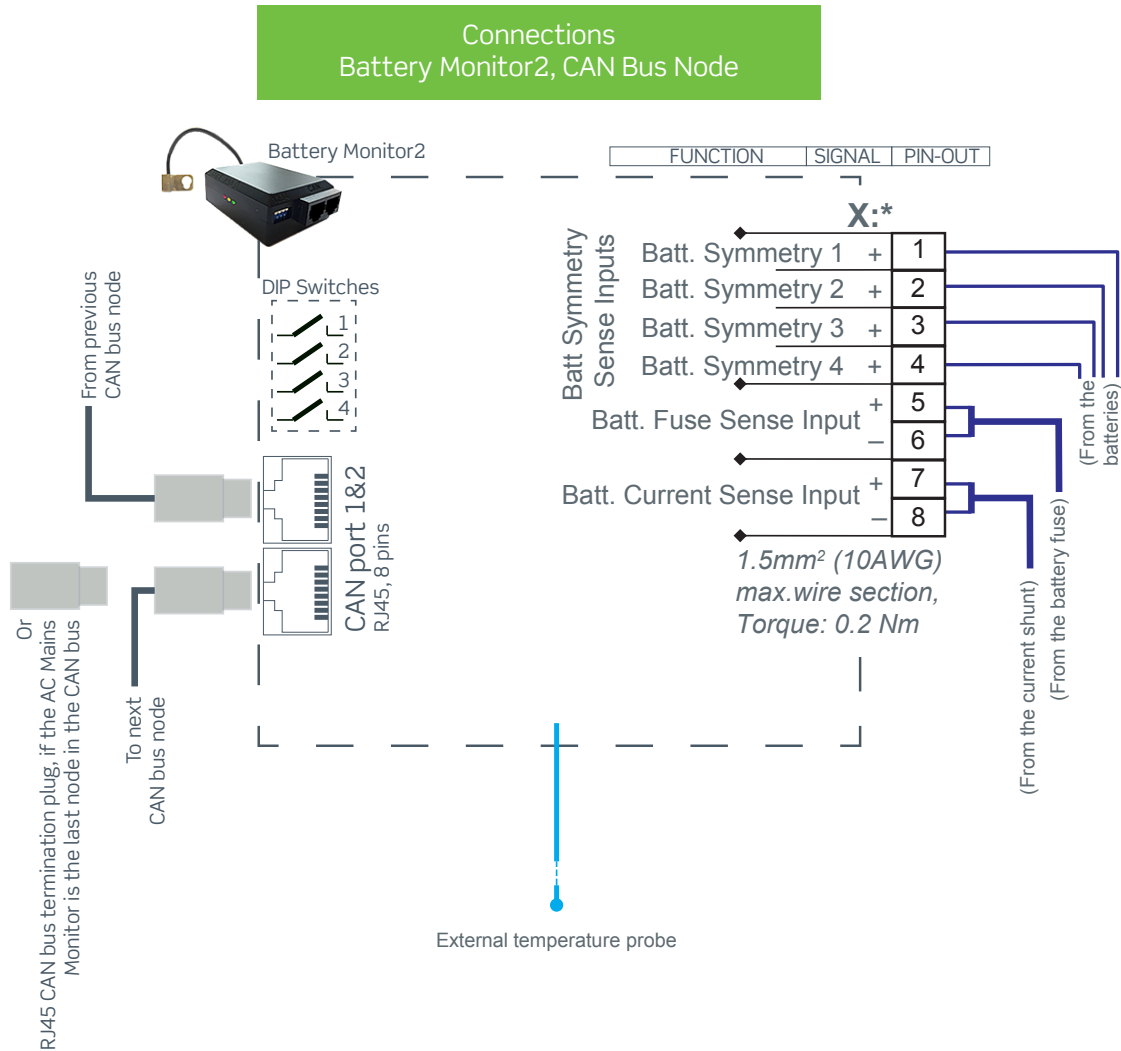

Figure 5. Connection Drawing Battery Monitor2 (T2) CAN Bus node
The *Battery Monitor* is equipped with 4 Battery Symmetry inputs (pin 1-4, see Figure 5 on page 11) monitored by their sAM (D). It is also equipped with 3 inputs each of the type Battery Fuse Sense, Current Sense and Temperature Sense (pin 5-6, 7-8 and fixed temperature probe). These 3 inputs are monitored by their respective sAM (T).